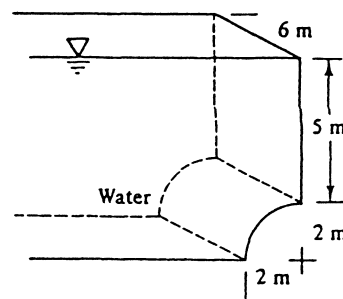

Fig. P2.85
**2.85** Compute the horizontal and vertical components of the hydrostatic force on the quarter-circle panel at the bottom of the water tank in Fig. P2.85.